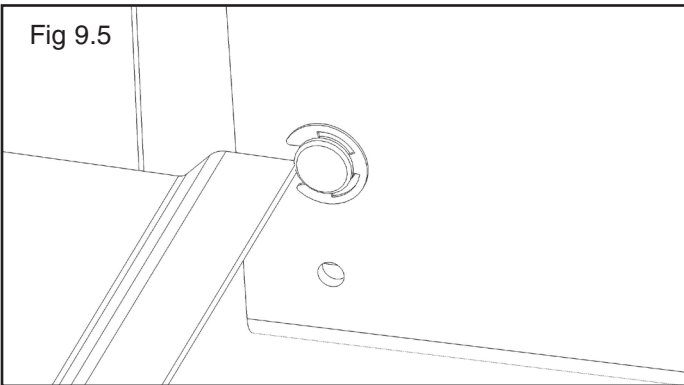

Fig 9.5
5. Secure the Drive-Up Ramp Pins by installing E-Ring retaining rings in the snap ring grooves in the pins. (See Fig 9.5)